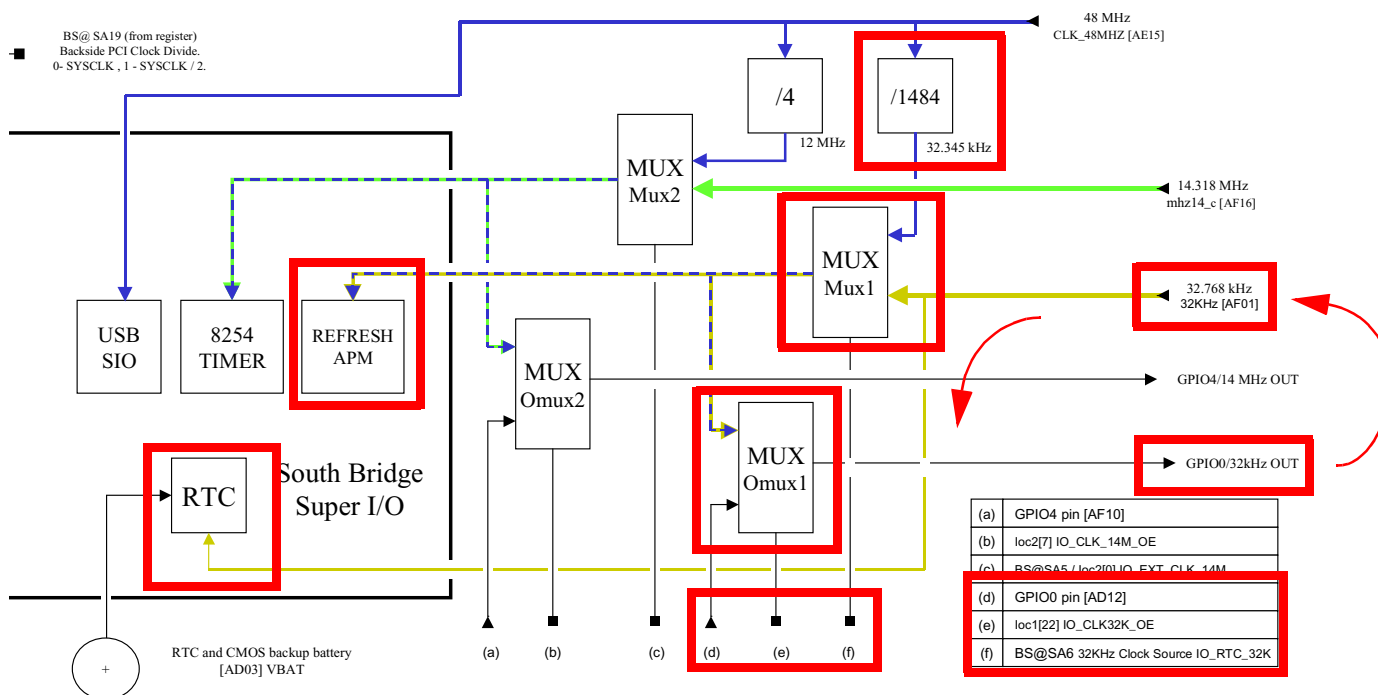

Figure 5-11 32KHZC_C [AF01] Clocking Control Circuitry
c. Drive the 32KHz Real Time Clock with GPIO[0] output which is USB_48MHz/1484. See [Figure 5-11 "32KHZC_C \[AF01\] Clocking Control Circuitry" on page 444.](#)